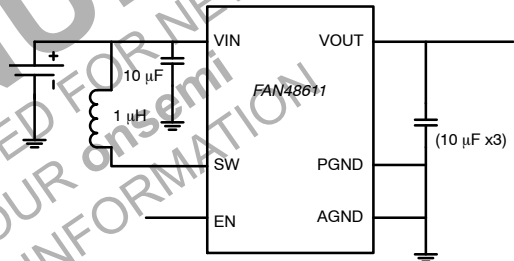

Figure 1. Typical Application
**ELECTRICAL CHARACTERISTICS** (Recommended operating conditions, unless otherwise noted, circuit per Figure 1,  $V_{OUT} = 5.25$  V,  $V_{IN} = 2.7$  V to 4.8 V, and  $T_A = -40^{\circ}\text{C}$  to  $85^{\circ}\text{C}$ . Typical values are given  $V_{IN} = 3.7$  V and  $T_A = 25^{\circ}\text{C}$ .)
(Unless otherwise specified;  $V_{IN} = 3.6\text{ V}$ ,  $V_{OUT} = 5.25\text{ V}$ ,  $T_A = 25^\circ\text{C}$ , and circuit according to Figure 1.)